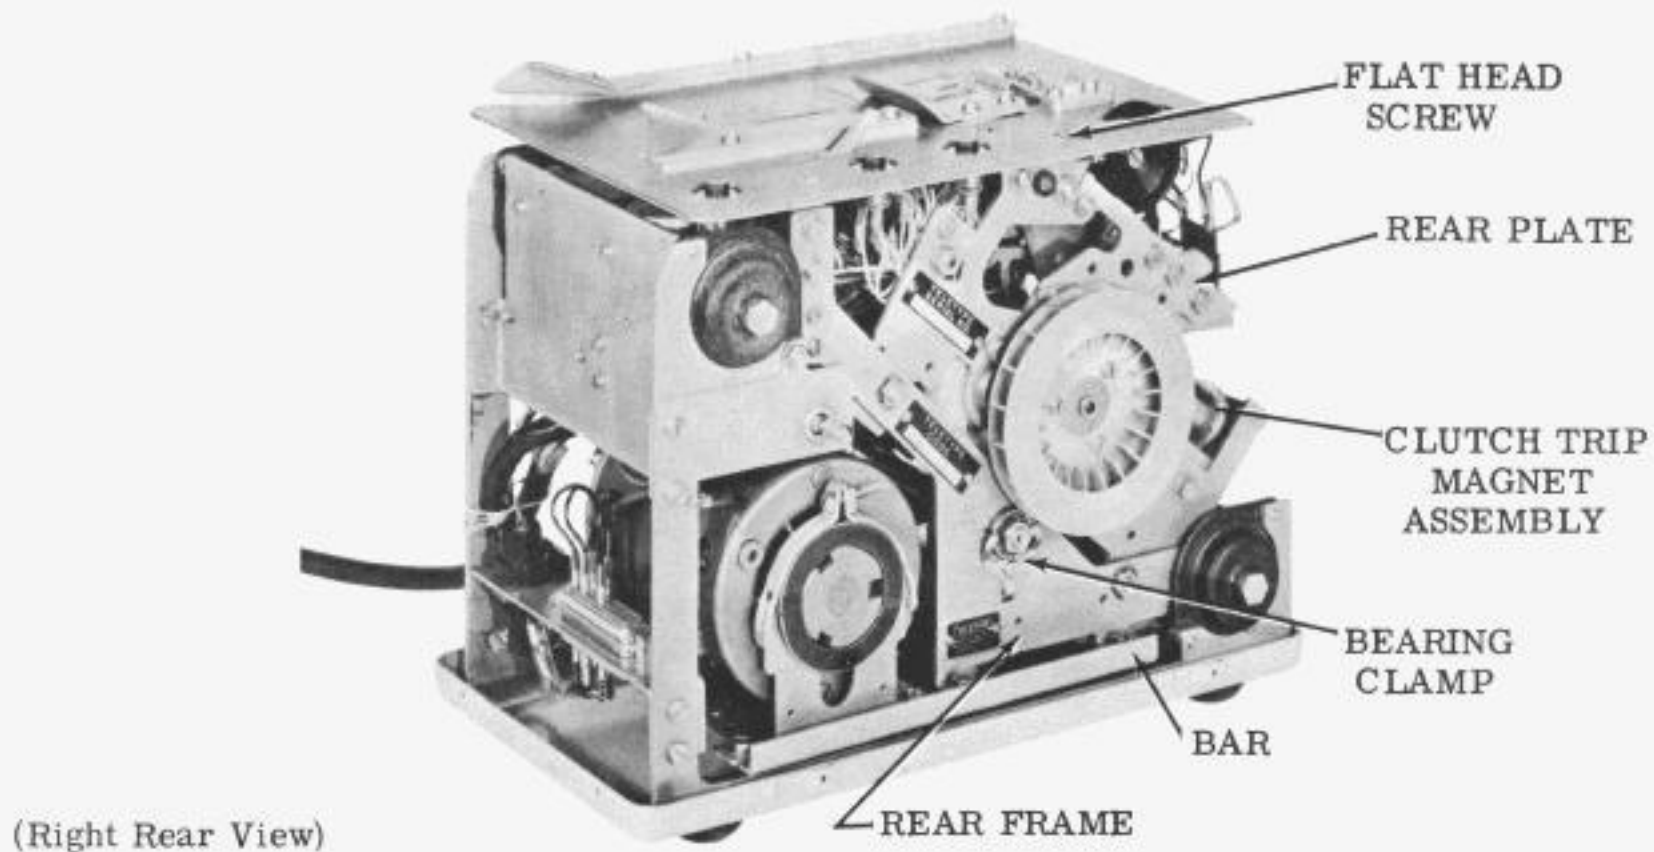

Figure 7 - 35 Edge Punched Card Rear
2.02 To remove the top plate TP305324 assembly, move the card-tape switch lever to the card position (Figure 2). Remove the four flat head screws TP93969 (Figure 7), and re-
2.09 To disassemble the rear frame TP305233 (Figure 7), follow procedure outlined in paragraph "To Remove Transmitter Distributor Assembly from the Motor Support Frame" of this section. Remove the two nuts TP112626. Remove the nut TP3595 from the shaft TP305211. Remove the screws TP151631 holding the top plate bracket and remove the screws TP152893 fastening the terminal strip holder TP305223. Remove the rear frame. To assemble the rear frame, reverse the procedure used to remove it.
2.11 To remove the rear plate TP305201 (Figure 7), follow the procedures outlined in paragraphs "Guideplate," "To Remove Transmitter Distributor Assembly from the Motor Support Frame," and "Rear Frame" of
2.17 To remove the clutch trip magnet assembly (Figure 7), pivot the reader about the front shock absorber mounting screws